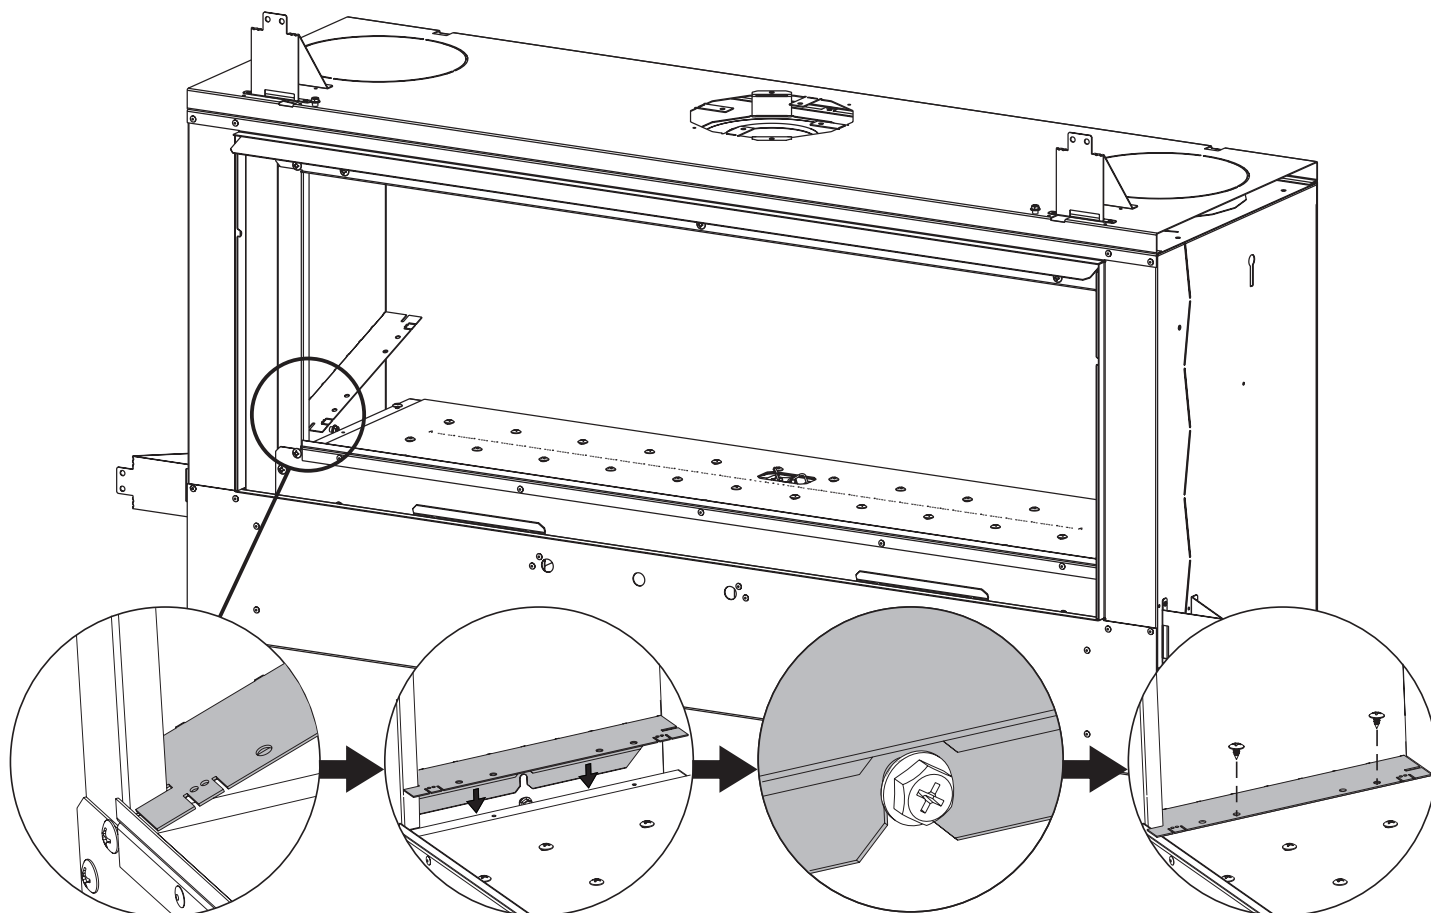

Figure 65
2. Attach Burner Surround Extension to Burner Surround as shown in **Figure 65**, using four (4) #8 x 1/2" Truss-Head screws (included in hardware pack).
3. The gas valve has inlet and outlet pressure taps as shown in **Figure 65**. Refer to pages 8 and 17 for gas pressure requirements.